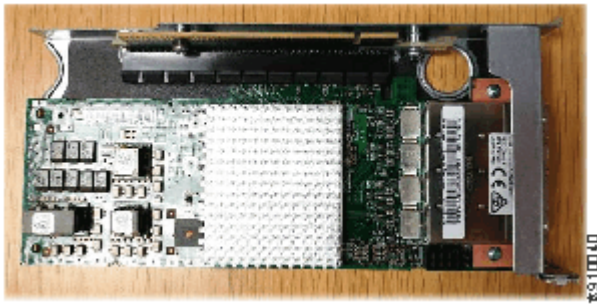

Figure 28. Alignment of the network adapter
- Align the replacement adapter with the PCIe socket of the riser and press the adapter into place. Ensure that the adapter is fully seated in the riser, as shown in Figure 28 on page 69.